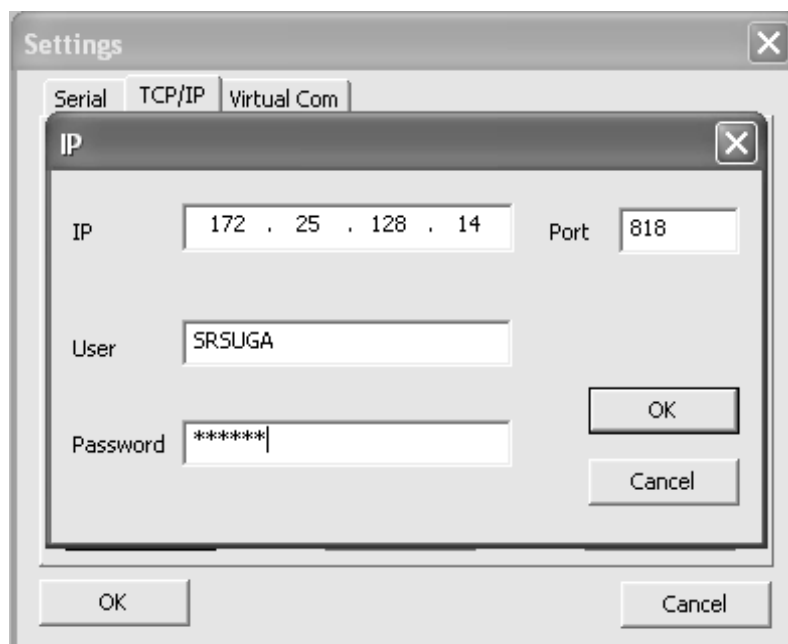

Fig. 2-27. Screenshot of Ethernet data input dialog in RGA.exe
- Click 'Add' button then new data input dialog box will appear (Fig. 2-27).